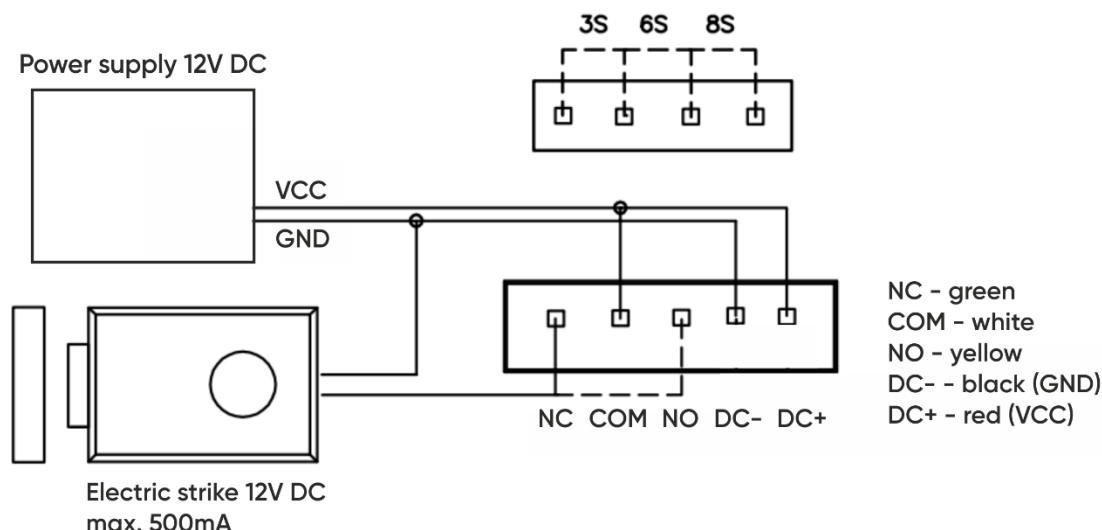

fig.8 Control module with electric door strike wiring scheme.
2. Connect the power supply and the electric door strike according to the wiring diagram (fig.8). Connect the power supply to the control module (with the connection terminal at the back). Use the jumper to set the opening time of the electric door strike.